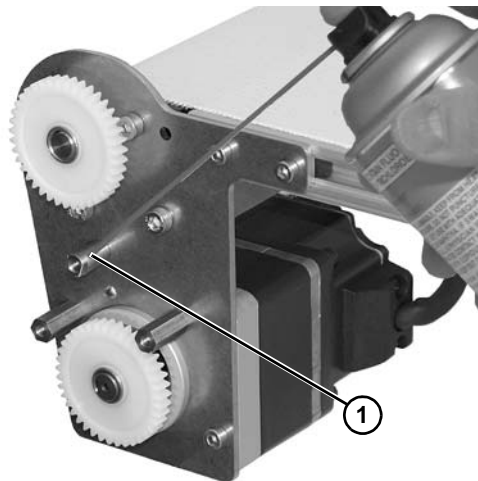

Figure 6
6. Apply a small amount of food grade grease to the shaft (**Figure 6, item 1**) of the middle gear.